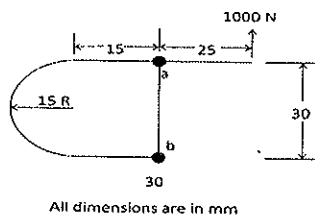

Fig.5
13. (a) Determine the shear flow and shear centre for the section in Fig.5